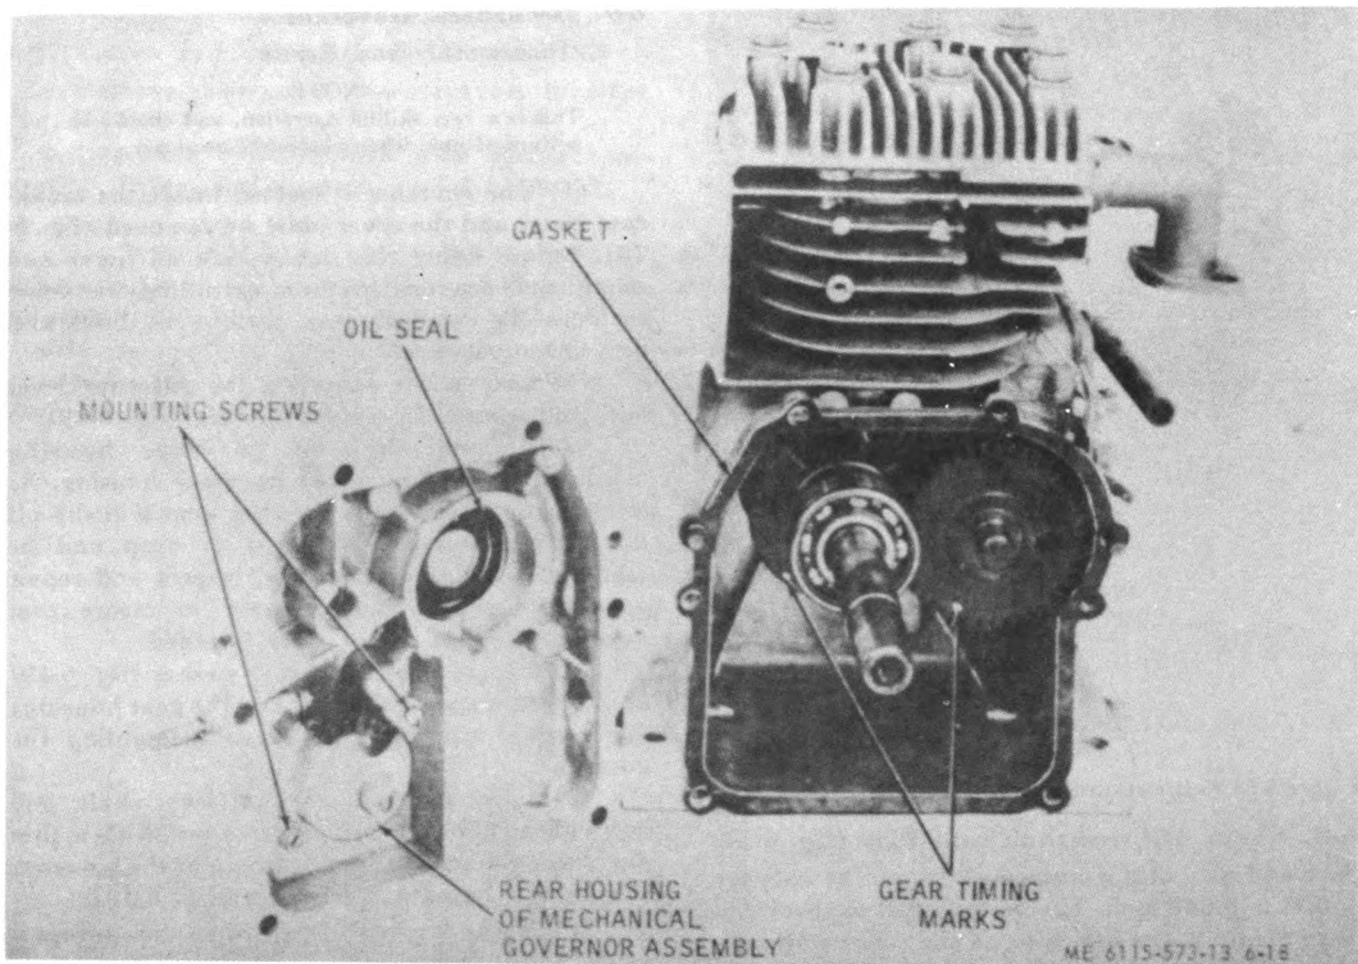

Figure 6-18. Engine body with crankcase cover removed.
(1) The governor is located inside the crankcase cover and the cover must be removed (fig. 6-18). Before doing this, make sure all burrs and rough spots are removed from extruding crankcase surfaces. To remove cover, remove six bolts and pull cover outward.